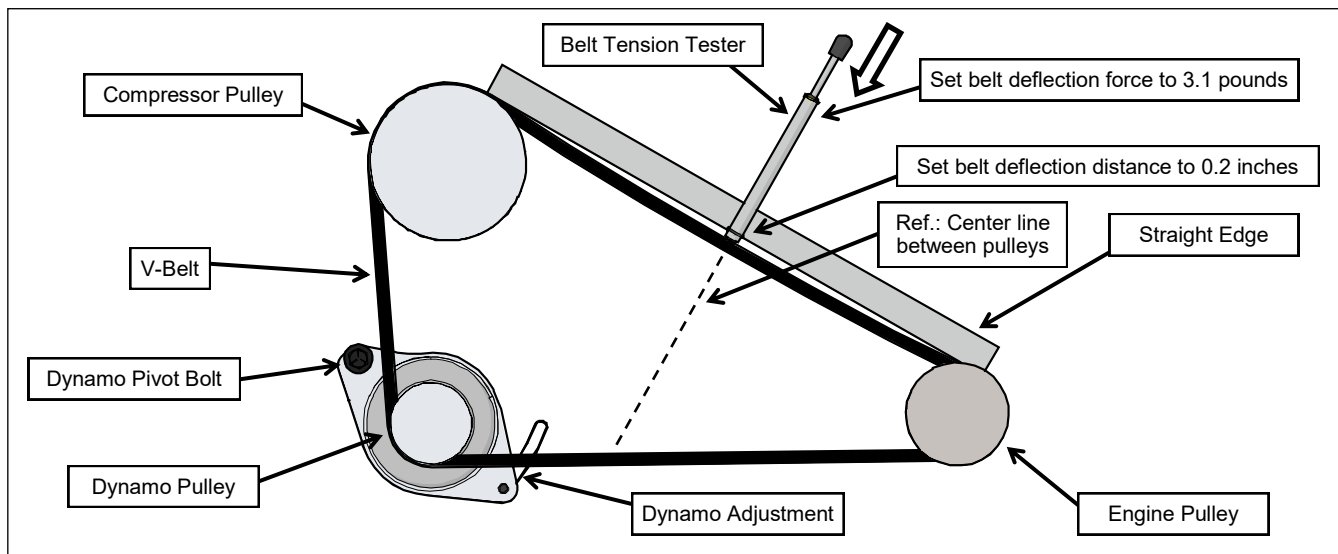

Fig. 7.4 (Compressor V-Belt Tension)
- 7.4 Check the tightness of the V-belt by placing a straight edge tangent to compressor pulley and dynamo. Place belt tension tester in the center and perpendicular to the belt between the (2) pulleys and next to the straight edge. Push the tensioner towards the theoretical center making sure that a deflection force of 3.1 lbs. gets 0.2 inches of belt deflection at the center of the belt. See Figure 7.4.